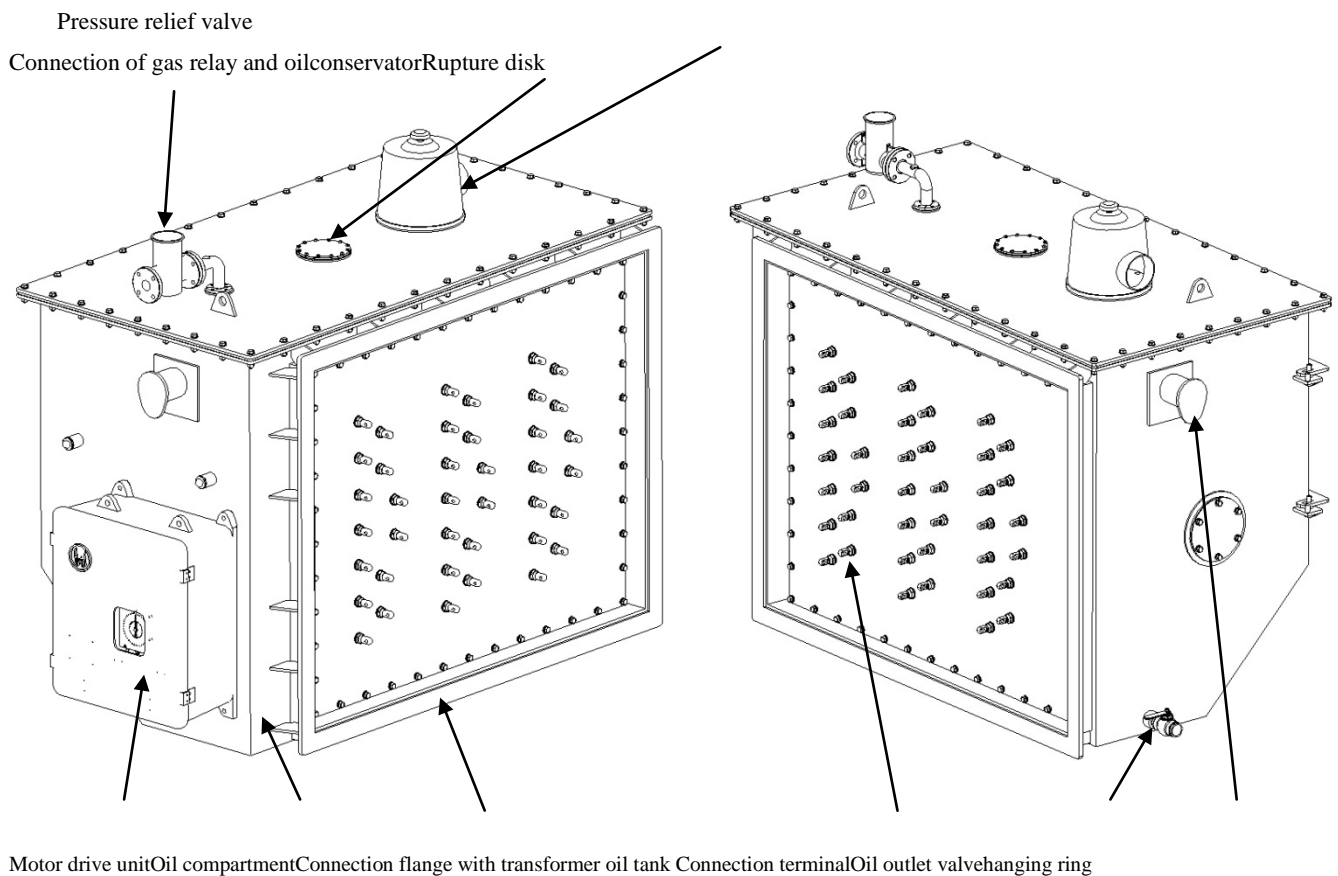

Fig. 1
1.1 Huaming self-designed type HWV OLTC adopts a unique structure of external-mounted compartment. It houses diverter switch and tap selector in an oil compartment and mounted on the transformer tank, which is completely separate from the transformer tank. Type HWV OLTC is applied to three-phase D connection and Y connection power transformer and industrial transformer with highest voltage of equipment 17.5kV, 40.5kV and 72.5kV, three-phase current $< 1000\text{A}$, rated frequency 50HZ ... 60HZ. (Max. operating positions with change-over selector < 35 .) as shown in Fig. 1